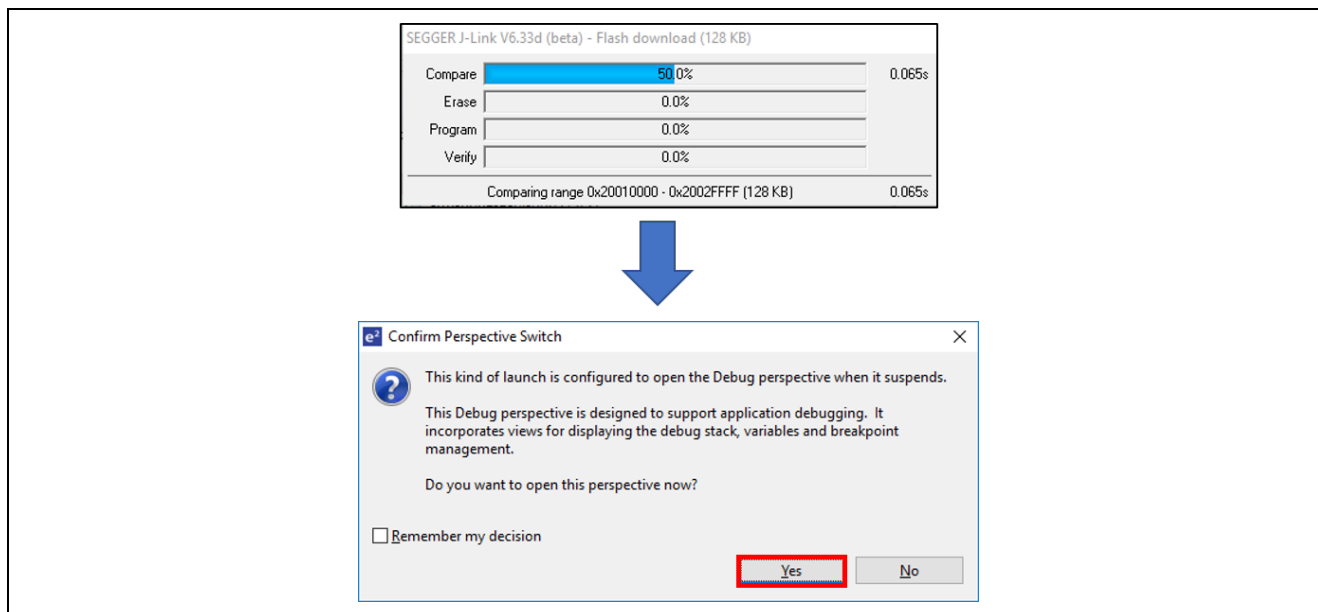

Figure 3-11 Downloading the target program
- The target program will be downloaded and e² studio may ask user to 'Confirm Perspective Switch', click 'Yes'. This is shown in Figure 3-11.